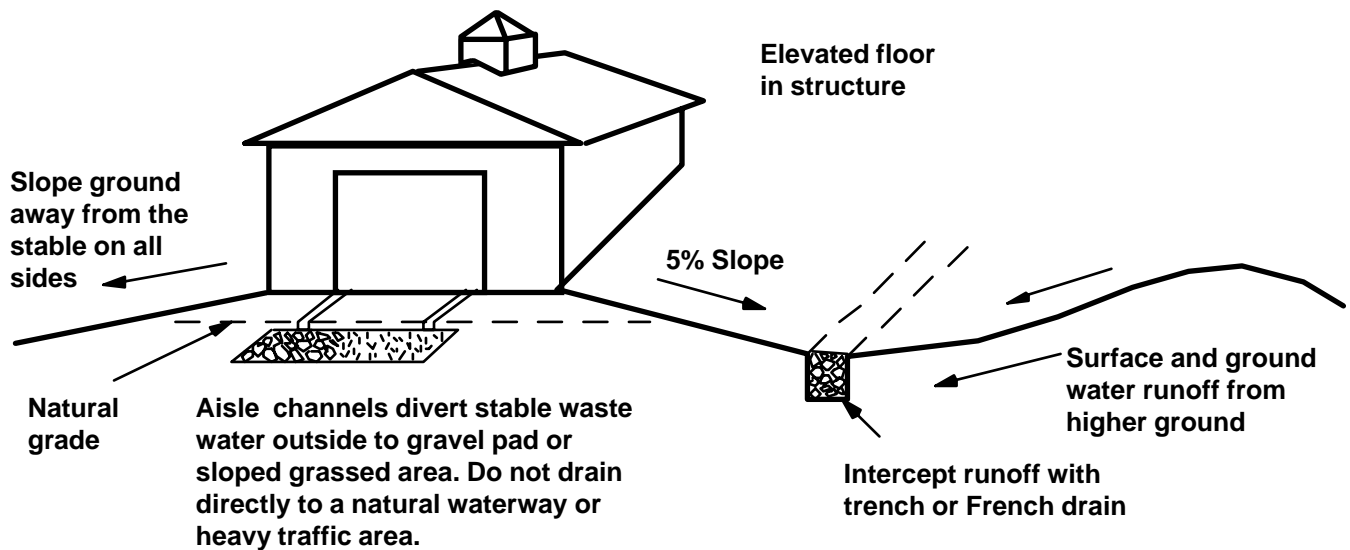

Figure 8. Proper floor drainage considers several site related features related to keeping water away from the building.
- Slope the ground surface 5% away from the stable and divert surface and groundwater away from the stable site (Figure 8).